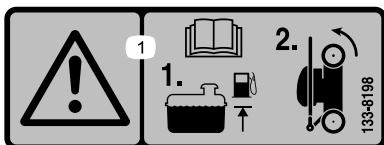

Figure 21
1. Ensure that the level of gasoline in the fuel tank is no higher than what is recommended by the engine manufacturer; refer to the engine manufacturer's decal on the engine (Figure 21).